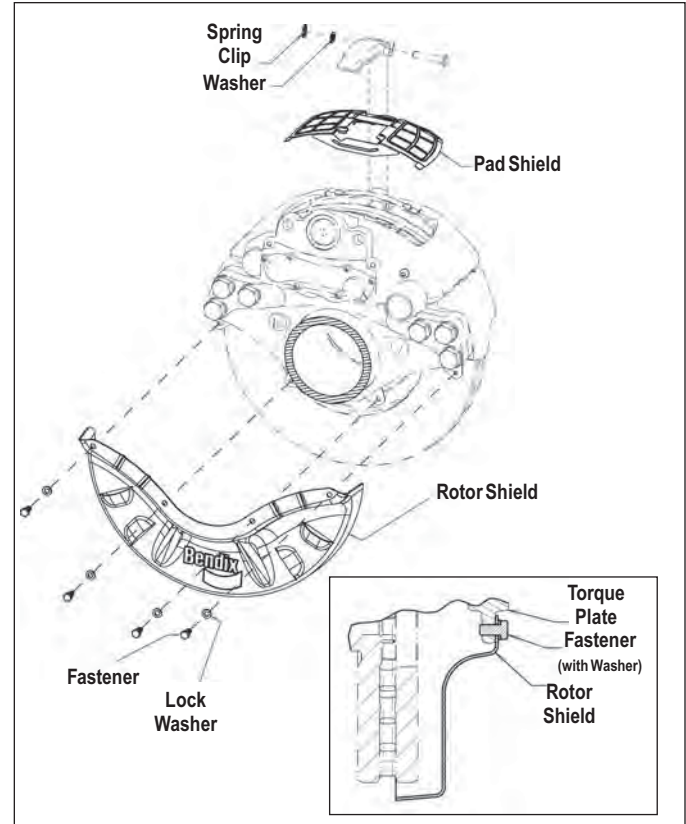

FIGURE 32 - TRAILER AXLE EXPLODED VIEW WITH INSET SHOWING ROTOR SHIELD INSTALLATION
5.1.4 Trailer Axle Rotor Shields (See Figure 32). Position the rotor shield with *the torque plate between the shield and the rotor*. With one (supplied) lock washer in place on each cap screw, pass the screws through the shield before mounting onto the threaded torque plate holes. Torque the cap screws to 24 ft. lbs. (288 in. lbs.).